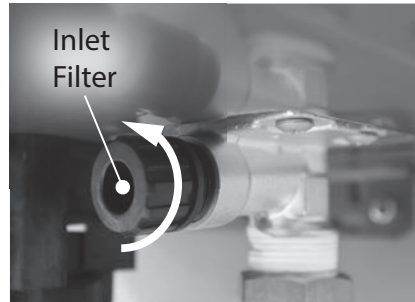

Figure 160 - Locate and remove inlet filter
- 8 Locate and remove the inlet filter as shown in Figure 160 to drain any residual water left in the system.